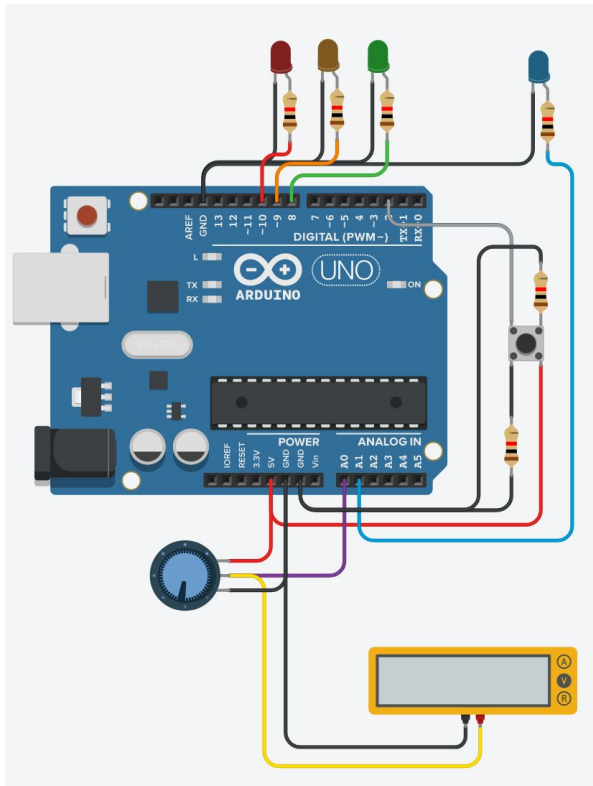

Figure 2: Configurable traffic light control system
The traffic light will be simulated using three light-emitting diodes (LEDs); one red, one yellow, and one green. Each of these LEDs is connected to a different digital IO pin on an Arduino Uno (e.g., see Figure 2).
The traffic lights can only be configured when the system enters “configuration mode”. To enter configuration mode, the user presses a tactile pushbutton (see Figure 2) at any time during a cycle, and in any state of operation (1 through 4). When that button is pressed, the system continues to operate until the next red light, at which point the system enters configuration mode.
- A fourth LED (LED4; see blue LED at top-right of Figure 2) should be used to represent the current state of the traffic lights: LED4 encodes a state number, x , by blinking x times in 1 second, and then remaining off for 2 seconds. For example, in State 3, LED4 should issue 3 pulses (each pulse period = 0.33 s; duty cycle = 50%) and then remain off for 2 seconds. In State 4, LED4 should issue 4 pulses (pulse period = 0.25 s; duty cycle = 50%) and then remain off for 2 seconds. This three-second cycle should repeat for as long as the system remains in configuration mode.
- States are selected using a potentiometer via ADC input (see Figure 2). The full range of ADC outputs should be used when selecting a State. For example, if an